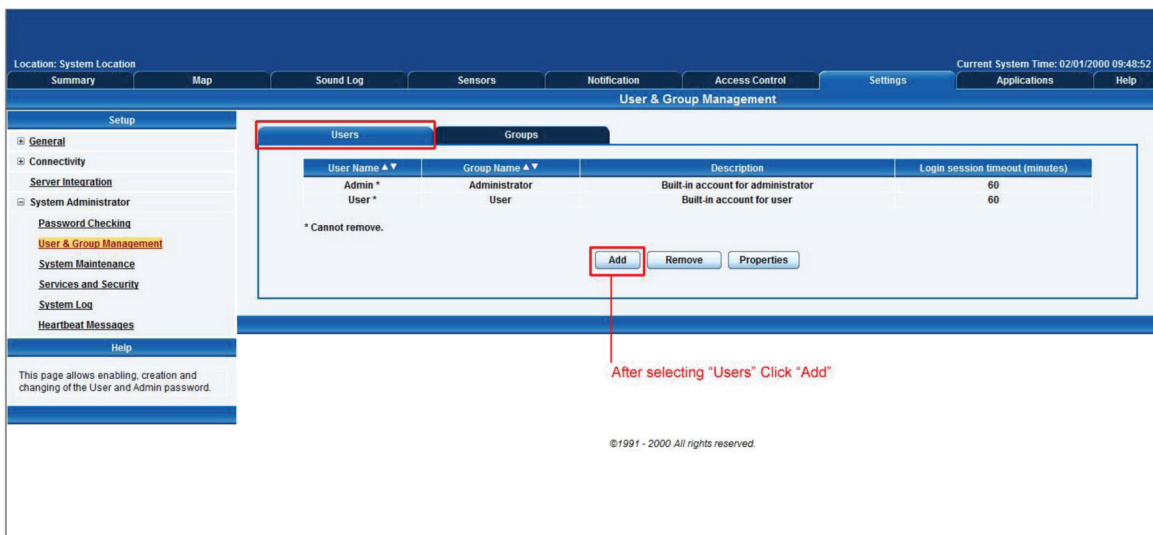

Figure 3-18. User Setup screen.
1. Click on the "Users" tab and then click the "Add" button to add the new users to your groups as shown in Figure 3-18.